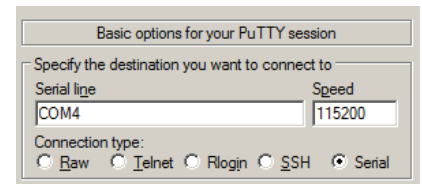

Fig. 3
In Fig.3, PuTTY is used as example. USB-Serial port is COM4, and speed needs to be set to 115200. In Fig.4 below shows a sample serial console session. On power-up of converter, welcome message (1) is displayed. Pressing "?" and <Enter> key will show brief help message (2) and (3). Entering "i" displays current configuration (4).